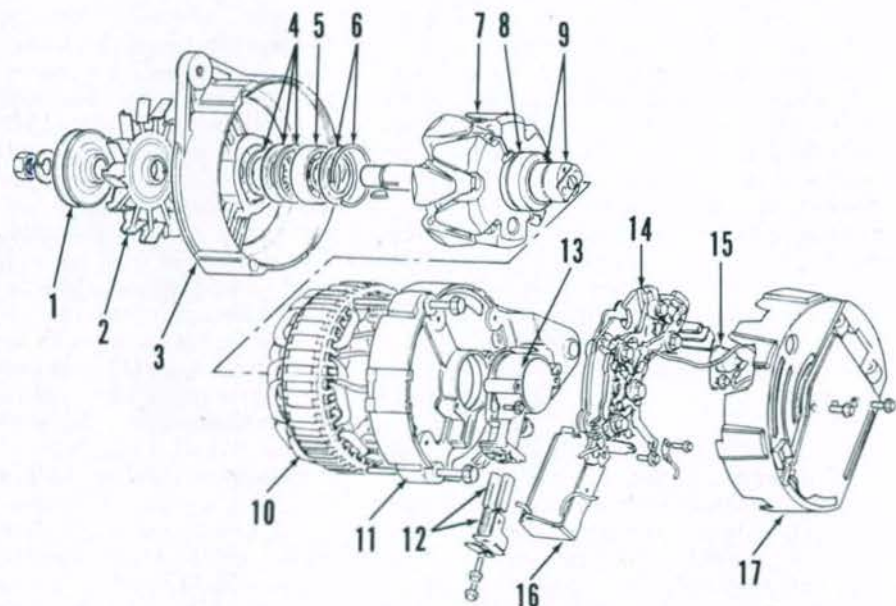

Fig. 107—Exploded view of typical Lucas alternator used on some MF240 and MF250 tractors.
104. OVERHAUL. To disassemble alternator, first remove rear cover (17—Fig. 107). Disconnect and remove surge protection diode, regulator (16) and brush holder (13) with brushes (12). Note that these parts can be removed without removing the alternator from the engine. Any further disassembly of alternator will require removal of alternator.